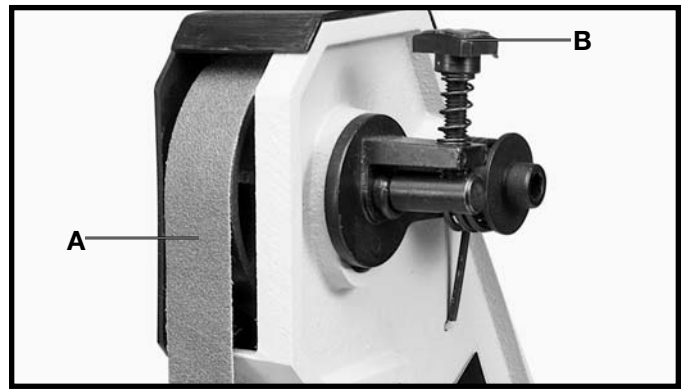

Fig. 23
The belt tracking adjustment is set at the factory so that the belt (A) Fig. 23, will run true on the pulleys. If, however, the belt (A) should lead to one side or the other on the pulleys, an adjustment can be made by turning the tracking knob (B). Turning the knob (B) clockwise will move the belt to the right when facing the sander. Turning the knob (B) counterclockwise will move the belt to the left. **THIS ADJUSTMENT IS USUALLY VERY SLIGHT.**